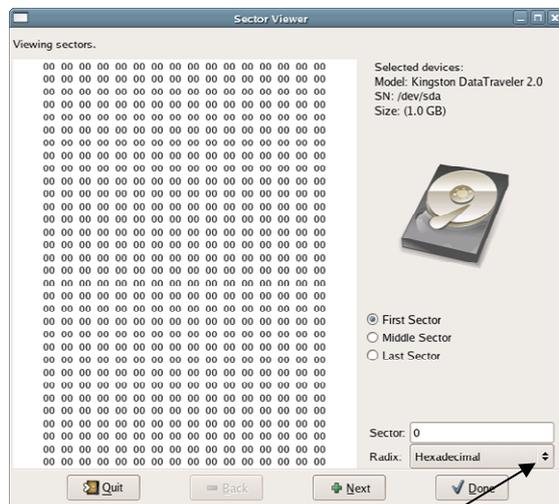

Figure 5.3 – Location of the Hexadecimal Pull-Down Menu
5.4 To change the output display from Hexadecimal to ASCII click on the “Radix” pull down menu. Figure 5.3 shows the location of this pull down menu.